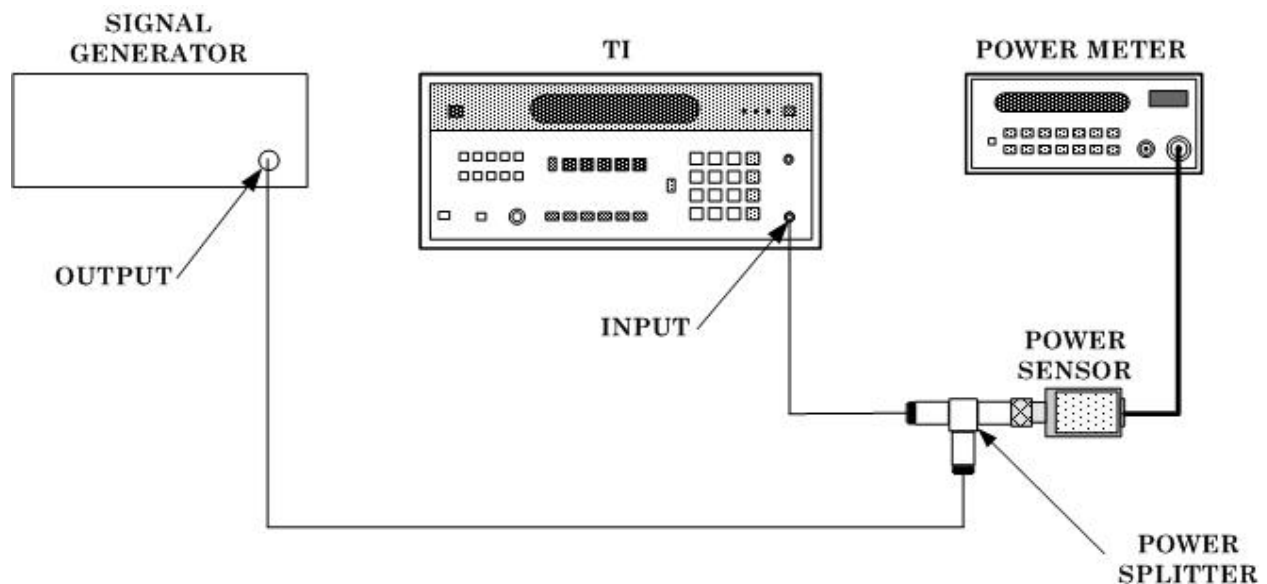

Figure 3. RF level equipment set-up.
(1) Zero and calibrate power meter and power sensor.
(2) Connect equipment as shown in figure 3.